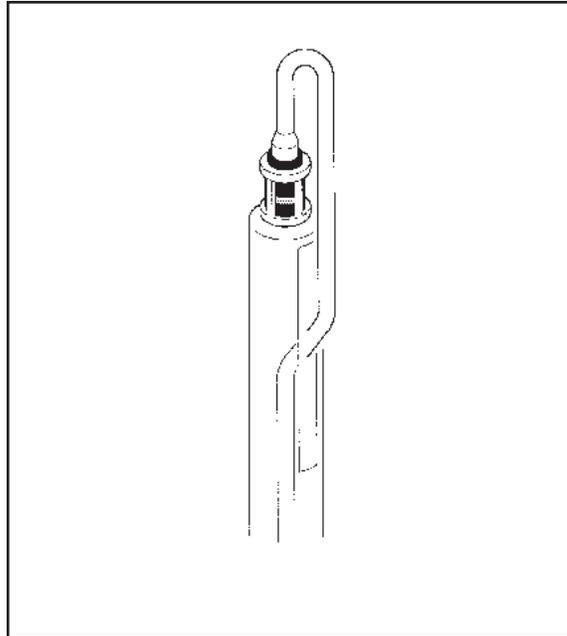

Figure 4.16
4. Place the sample assembly on the stage under the probe tip (see Figure 4.16 on the next page).